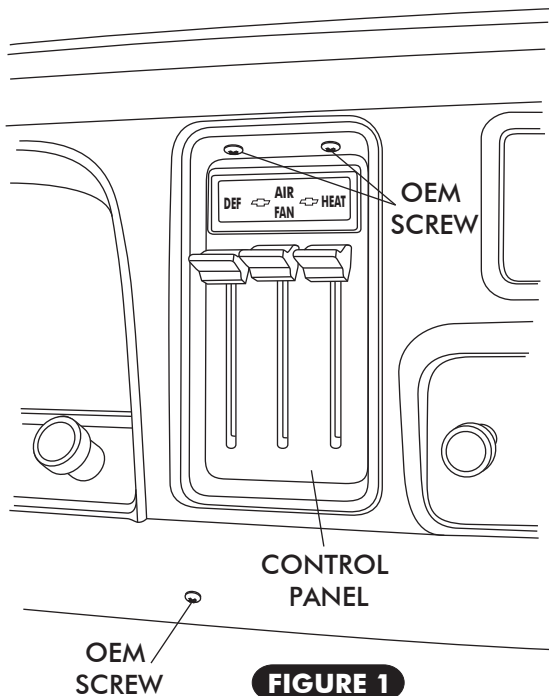

FIGURE 1
- REMOVE THE (3) OEM SCREWS FROM THE DASH. (SEE FIGURE 1, BELOW).